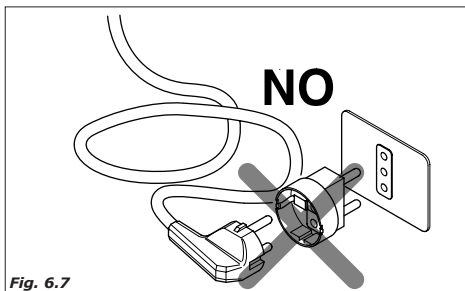

Fig. 6.7
- The sockets that are not compatible with that of the machine must be replaced. (Fig.6.7).